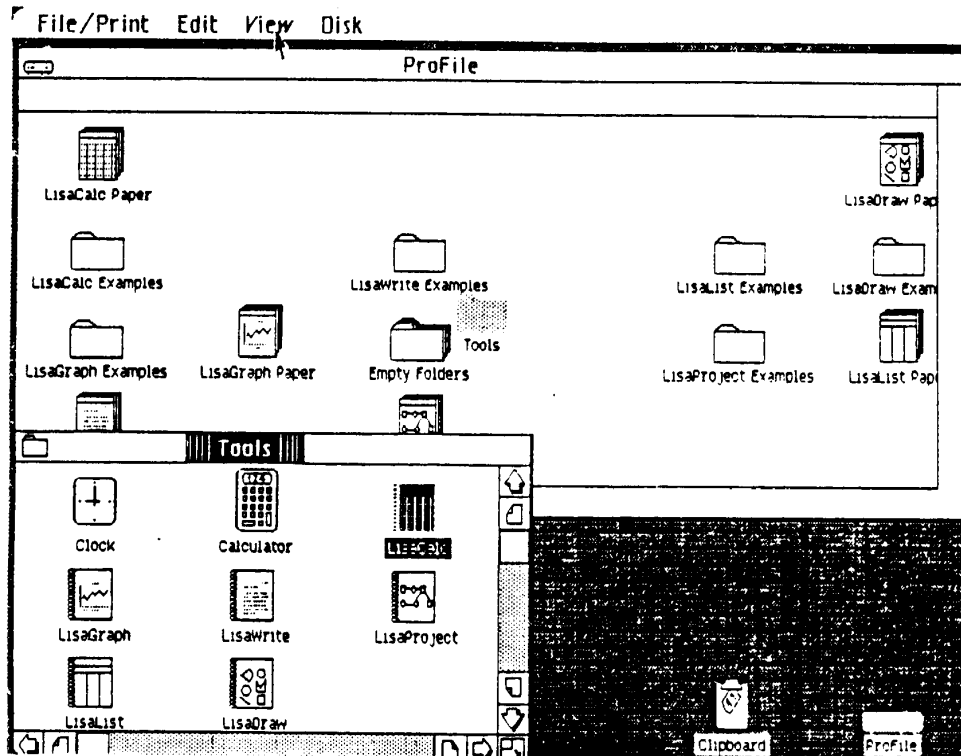

FIGURE 4
Each tool diskette puts three icons onto the ProFile: a **pad of paper** (e.g. "LisaCalc Paper"), a **file folder of examples** (e.g. "LisaCalc Examples"), and a **spiral notebook** (e.g. "LisaCalc"). (Find these items in Figure 4 to see what the different icons look like.) When you first open the ProFile window after installing the software, these icons will be stacked one on top of another, so that many will not be visible. They need to be unstacked and repositioned to match the diagrams in the user training materials. To do that, follow the steps below.
6. Open the new Tools folder (double-click), and use the mouse to give the Tool and ProFile windows the size and shape shown in Figure 4. Position them so that they overlap as little as possible.
7. The tool icons are the spiral pads labelled "LisaWrite," "LisaDraw," etc. You can identify them by the spiral along the left side of the icon. Use the mouse to move the tool icons, and the Clock and Calculator, from the ProFile window onto the Tool window, in the positions shown in Figure 4.
8. Make sure the Tools window is active (title should be white-on-black as in Figure 4; if not, click once anywhere on Tools window). Pull down the View menu and select "Straighten Up Icons". (If the icons rearrange themselves into more or fewer columns than you had planned, the window is too wide or too narrow: use the mouse to change its size. Then repeat steps 7 and 8.)